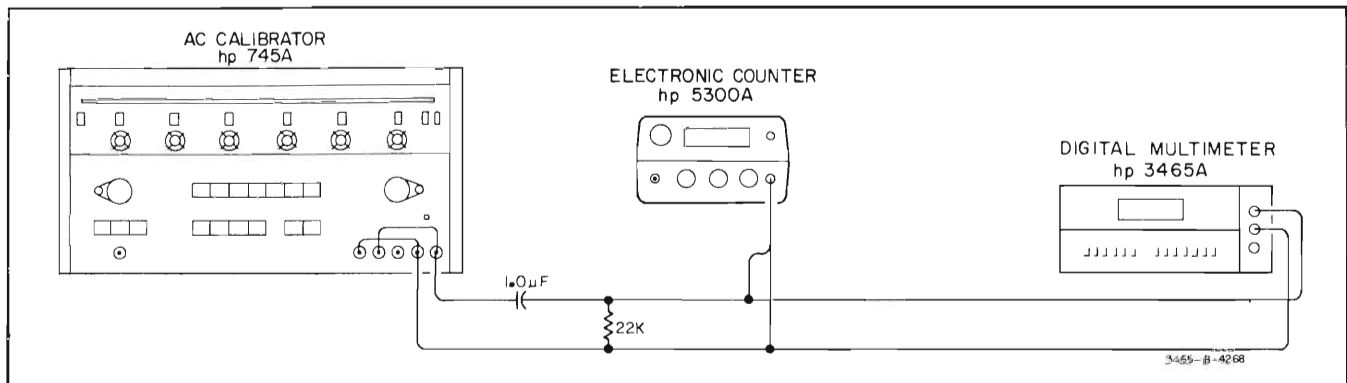

Figure 5-4. AC Normal-Mode Rejection Test.
- Connect the test equipment as shown in Figure 5-4. Do not connect the Multimeter at this time.